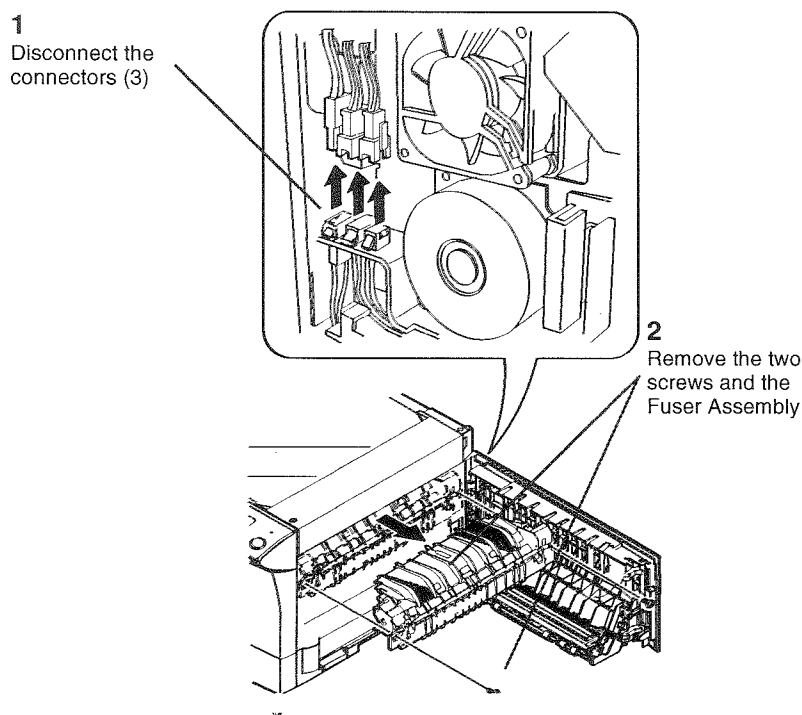

Figure 1 Removing the Fuser Assembly
4. ( Figure 1): Remove the Fuser Assembly.